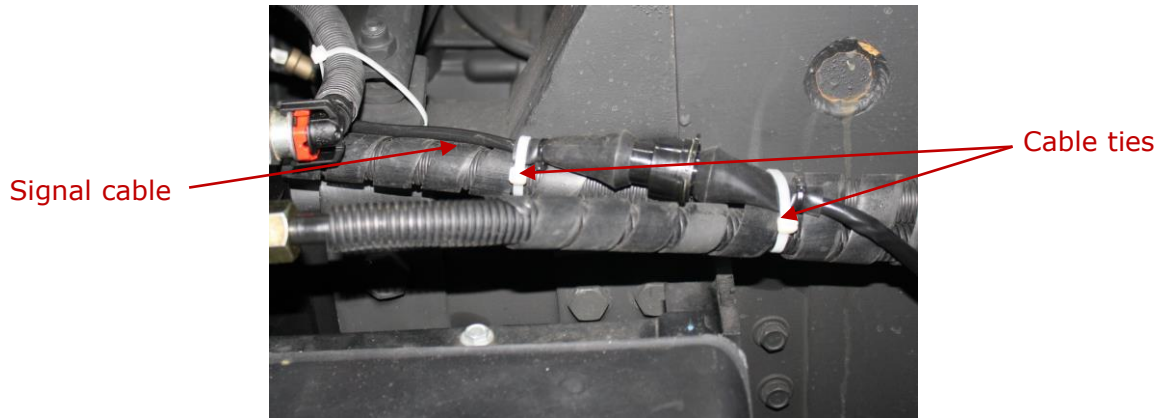

Figure 16 — Signal cable laying
4) To connect the signal cable wires, we recommend to purchase and use **connectors** (see figure 16).